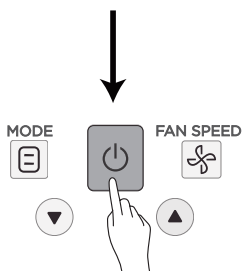

Figure 4.5
② Press  and  to adjust the parameter value;
③ Once the adjustment is done, press  or wait for 5 seconds to save the parameter settings. The operation sequence for the buttons is as shown in Figure 4.5.